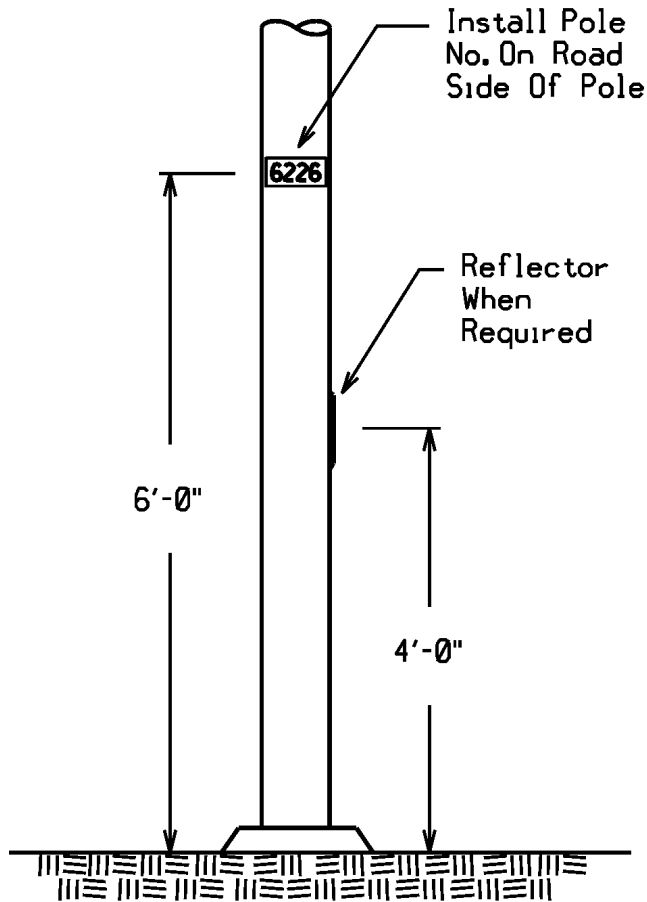

Figure 70 – Pole Numbering - Underground Supplied Customer Owned Lighting
1. Every underground supplied customer lighting pole shall be numbered in accordance with Figure 70.
3. Pole number decals shall be installed horizontal to each other as shown in Figure 70 – not vertical.